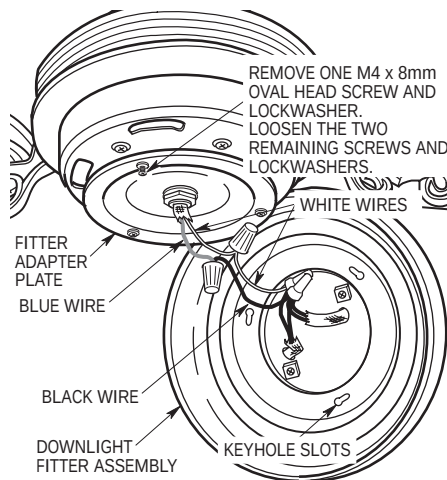

Figure 13
- 7. Engage the connectors of the downlight fitter assembly with the connectors of the motor assembly (black to blue: white to white) (Figure 13).